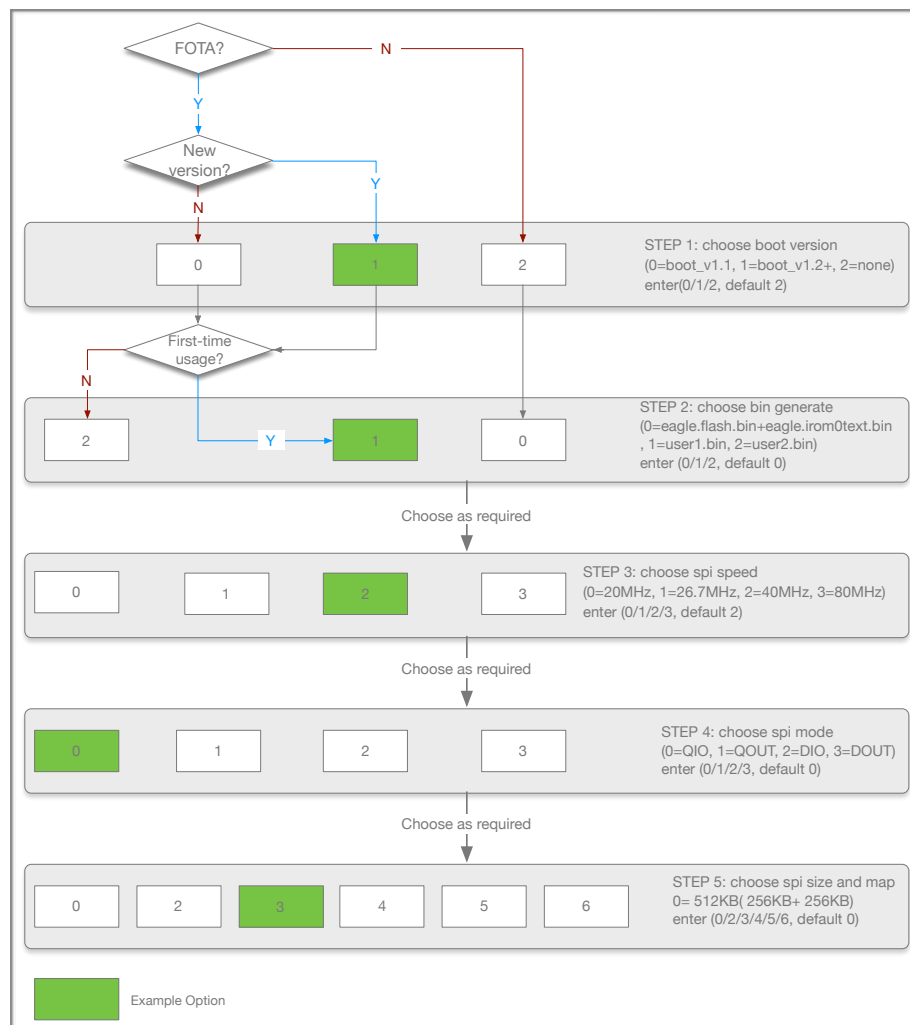

Figure 5-1. Compile SDK
3. Select the required options as shown in Figure 5-1.